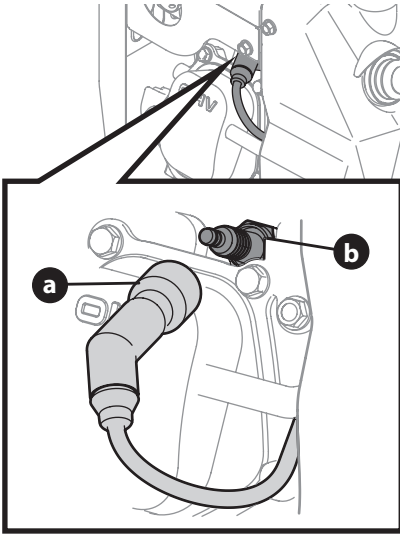

Figure 8
- Carefully disconnect the spark plug wire (a) and keep it away from the spark plug (b). Refer to Figure 8 for spark plug location.
1. Remove the spark plug boot (Figure 8).